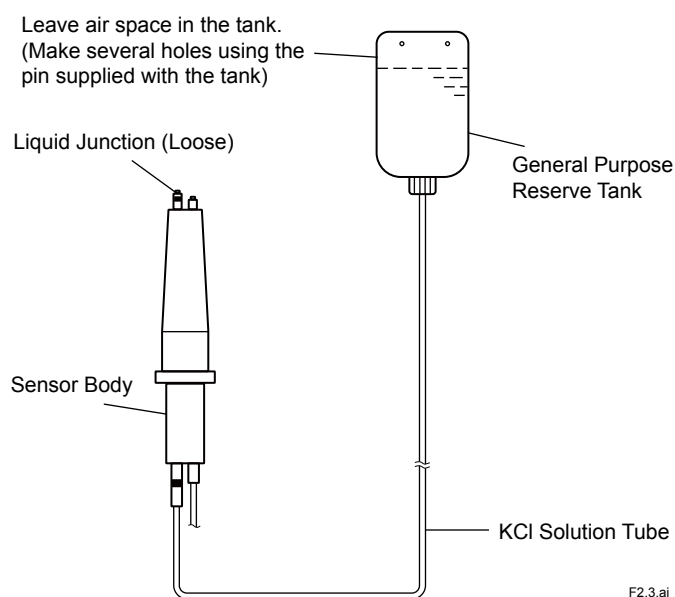

Figure 2.3 Supplying KCl Solution to Sensor Body
- (1) Connect the sensor cable to the associated instrument correctly by referring to Section 2.3 provided later.
- (2) Mount the liquid junction in the sensor body. Peel off the seal attached to the liquid junction mounting hole in the sensor body. Screw the liquid junction gently two or three turns into the hole.
- (3) If specified, a reserve tank containing 250 mL KCl solution and mounting hardware to hold this tank are supplied with the OR8EFG ORP Sensor. Attach the holding hardware to the pipe (2-inch). Connect the reserve tank to the KCl solution supply tube of the sensor. Remove the cap from the tank and screw the tube connector securely into the tank.
- (4) Supply KCl solution to the sensor (see Figure 2.3). First, mount the reserve tank on the mounting hardware with the tube connection part directed downwards. Using the pin supplied with the tank, make several holes at its top (see Figure 2.3). Stand the sensor upside down at a lower position than the reserve tank as shown in Figure 2.3 so that KCl solution flows from the tank into the sensor. When the KCl solution fills the sensor and overflows from the liquid junction mounting hole, securely screw the liquid junction into the mounting hole.
- (2) Connect the sensor cable to the associated instrument correctly by referring to Section 2.3.
- (3) Mount the liquid junction in the sensor body. Peel off the seal attached to the liquid junction mounting hole on the sensor body. Screw the liquid junction gently two or three turns into the hole.
- (4) If specified, a reserve tank containing 250 mL KCl solution and mounting hardware to hold this tank are supplied with the OR8EFG ORP Sensor. Attach the mounting hardware to the pipe (2-inch). Connect the reserve tank to the KCl solution supply tube of the sensor. Remove the cap from the tank and screw the tube connector securely into the tank.
- (5) Supply KCl solution to the sensor. First, mount the reserve tank on the mounting hardware with the tube connection part directed downwards. Using the pin supplied with the tank make several holes in its top (see Figure 2.3). Stand the sensor upside down at a position lower than the reserve tank as shown in Figure 2.3 so that KCl solution flows from the tank into the sensor. When the KCl solution fills the sensor and overflows from the liquid junction mounting hole, securely screw the liquid junction into the mounting hole.
- (6) Screw the protector to fix the sensor to the holder. In this case, remove the protective cap and secure the protector so that the flange of the sensor compresses the O-ring firmly.
First, mount the reserve tank on the holding hardware with the tube connection part directed downwards. Using the pin supplied with the tank, make several holes in its top (see Figure 2.3). Stand the sensor upside down at a position lower than the reserve tank as shown in Figure 2.3 so that KCl solution flows from the tank into the sensor. When the KCl solution fills the sensor and overflows from the liquid junction mounting hole, securely screw the liquid junction into the mounting hole.